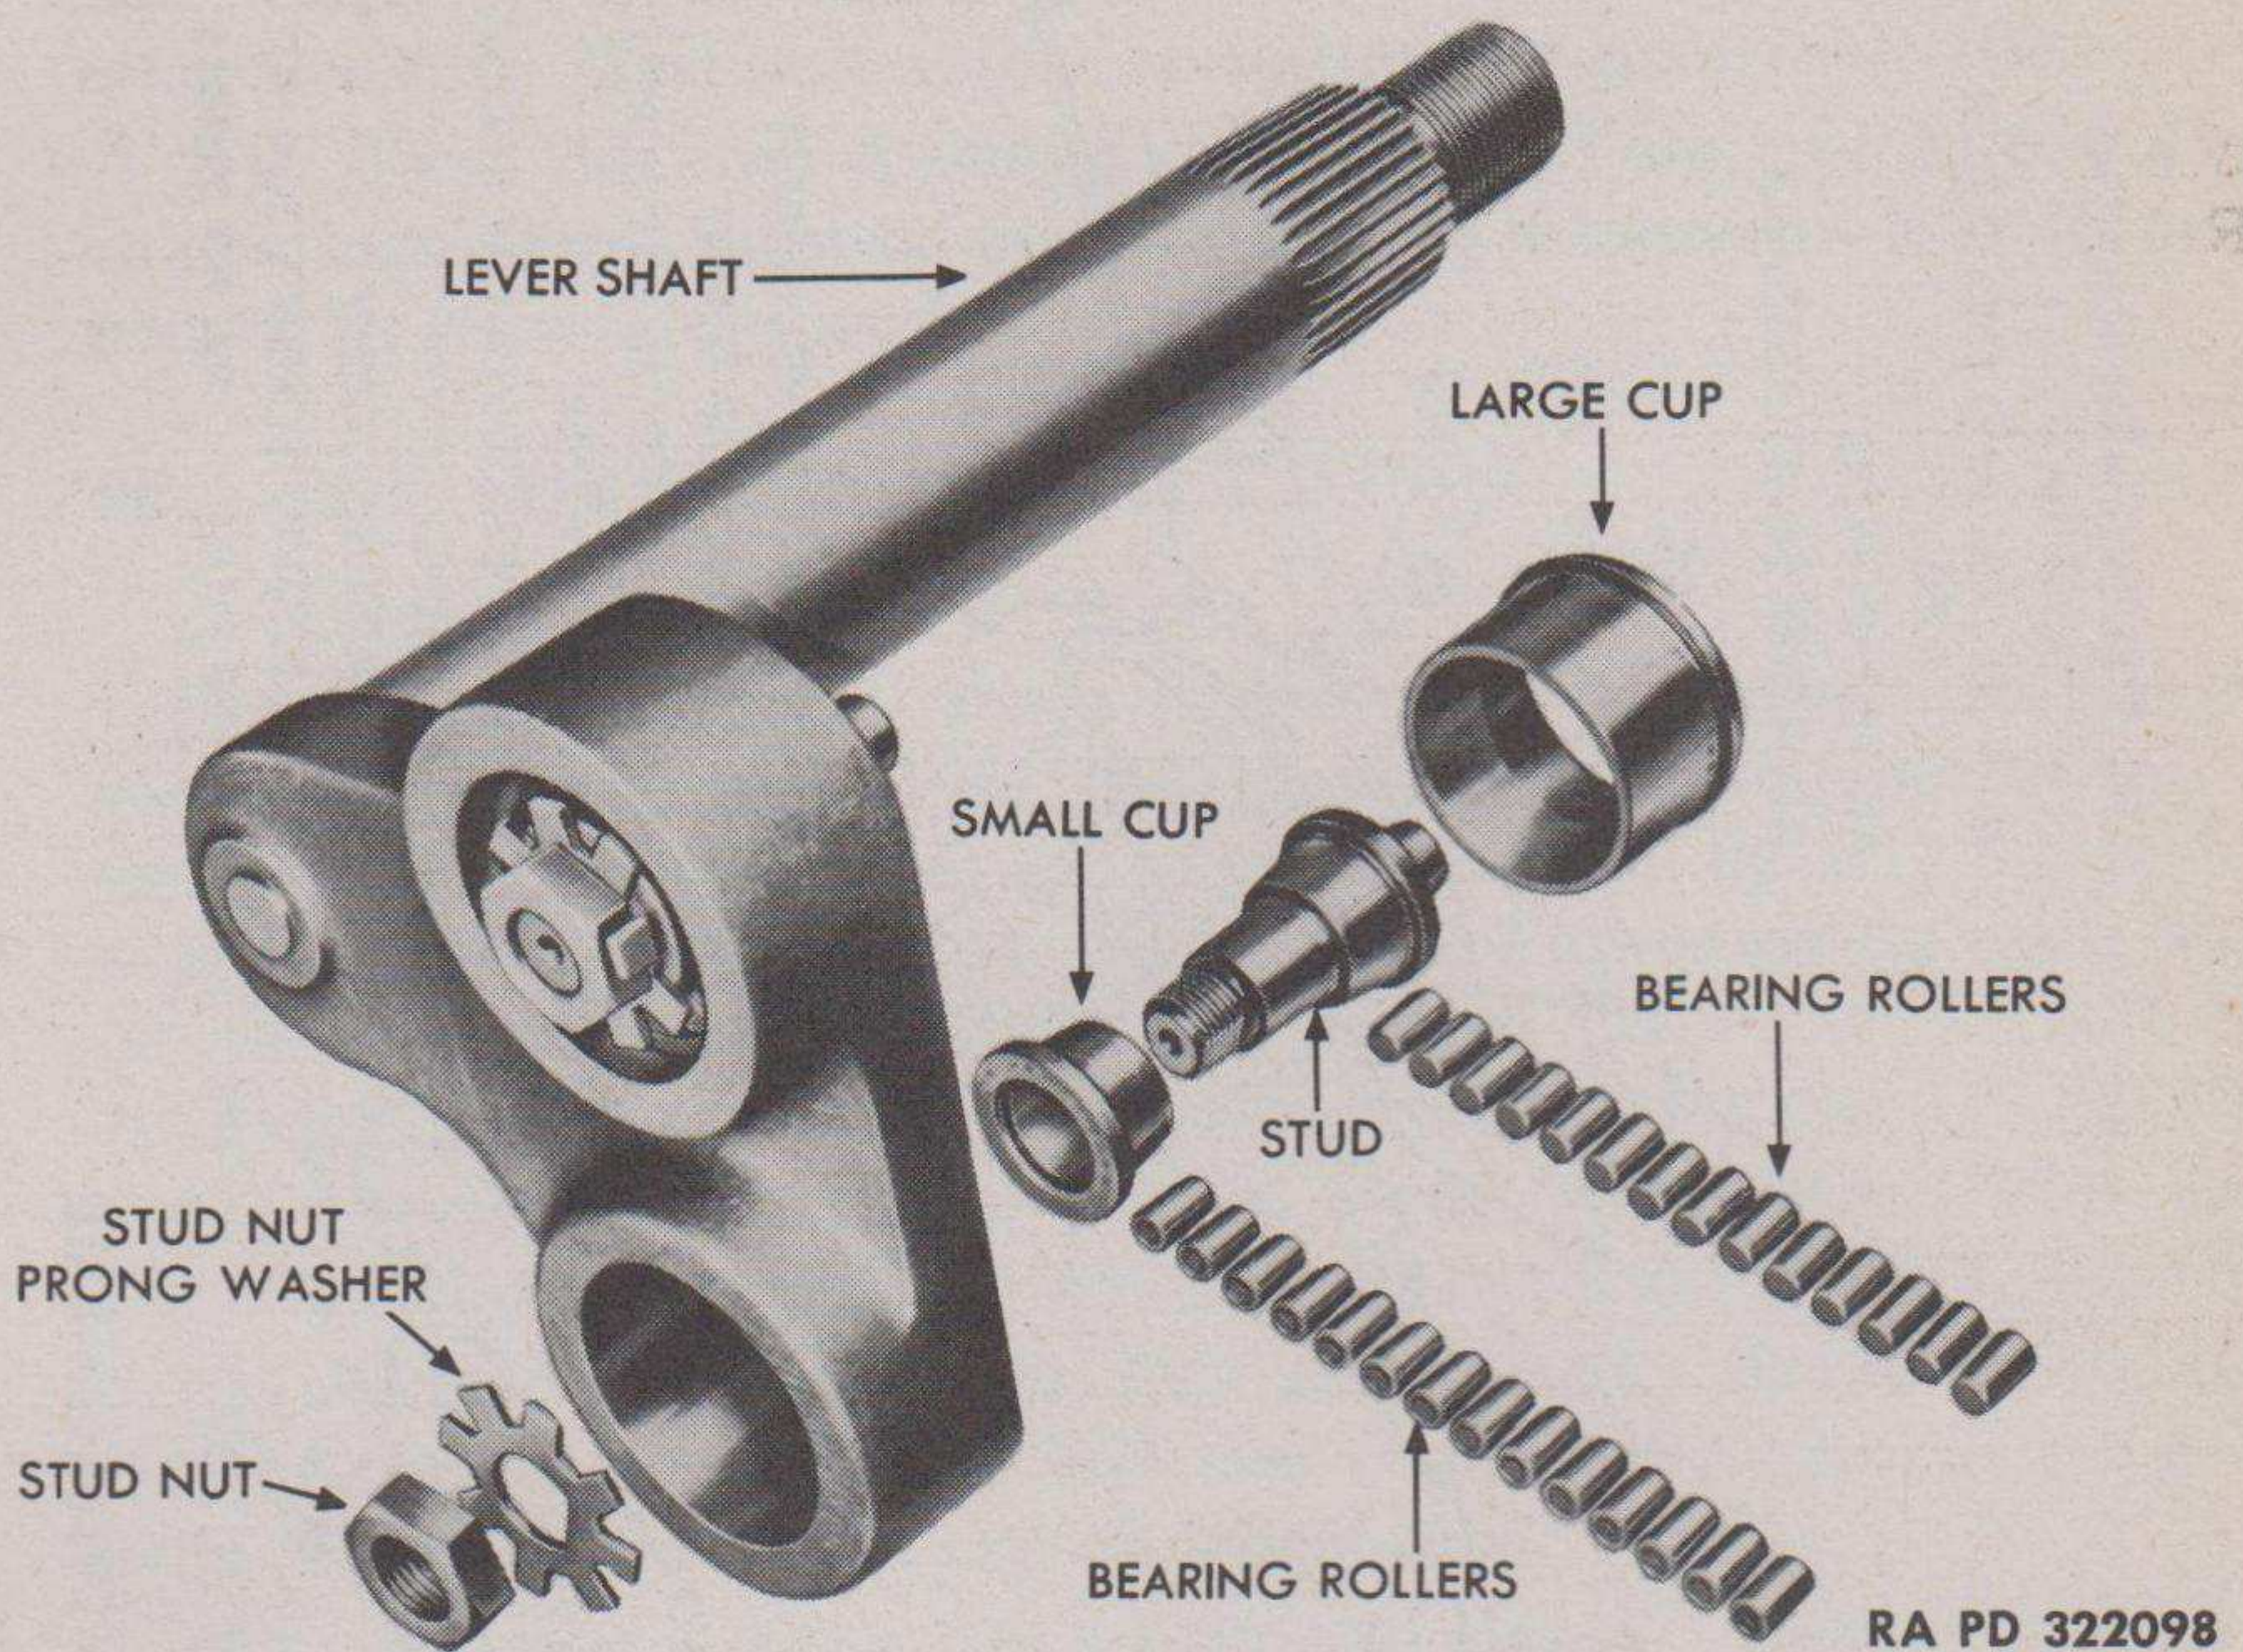

Figure 64 – Lever Shaft Disassembled
(1) **REMOVE STUD ROLLER BEARINGS** (fig. 64). Straighten prong of stud nut prong washer. Remove stud nut and prong washer.
(1) **INSTALL STUD ROLLER BEARINGS** (fig. 64). Install large bearing cup into seat in lever shaft. Position stud in bearing cup and pack with lubricant. Place 14 bearing rollers around tapered bearing surface of stud. Pack lubricant around bearing surface of small cup, position 14 rollers around it, and carefully insert small cup and rollers over stud and into bore of large cup. Install prong washer and stud
(2) **TEST BEARING ASSEMBLY** (fig. 64). Turn stud to test drag on bearings. Drag must be heavy, requiring a torque of 5 to 11 inch-pounds to revolve the stud.